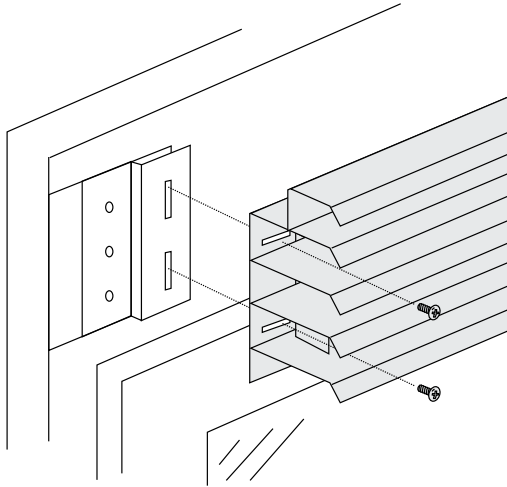

Figure 31a. *Installing the upper louvre assembly*
2. Install the upper louvre assembly as shown in figure 31a. Before tightening the screws fully, adjust the louvre assembly so that it is centred horizontally and vertically.